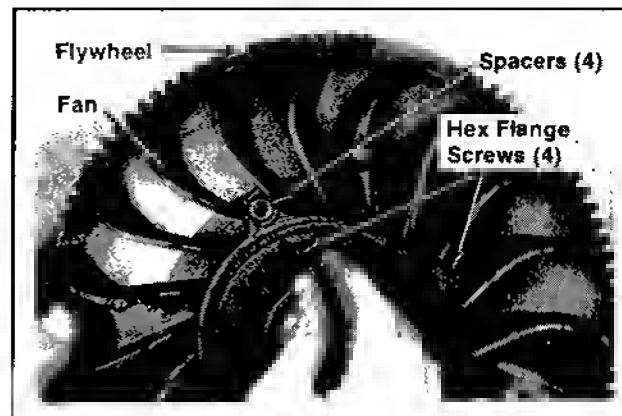

Figure 9-19. Removing Fan From Flywheel.
4. Remove the hex. flange screws, spacers, and fan. Refer to Figure 9-19.